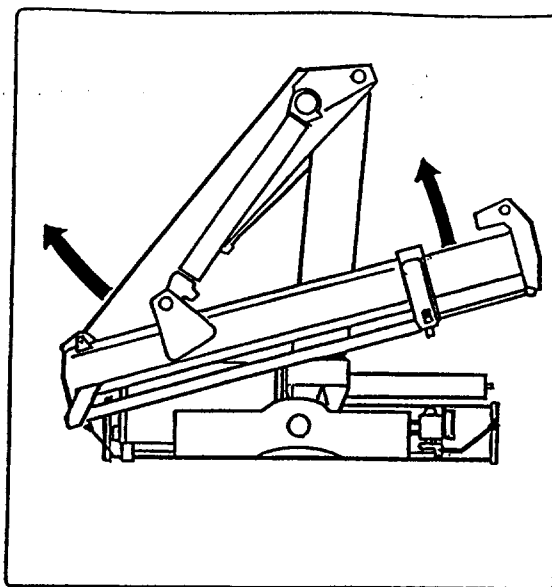

Figure 2-6
6. Fold the outer boom as close as possible to the inner boom. Check that the outer boom has left its support. See Figure 2-6.